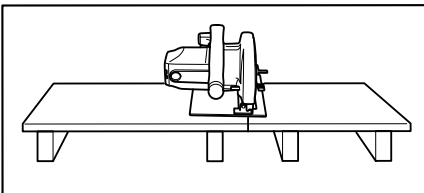

Fig. 1
8. Support Large Panels (Fig. 1 & 2). Large panels must be supported as shown in Fig. 1 to minimize the risk of blade pinching and kickback.
10. Guard Against Kickback. (Fig. 1 & 3) Kickback occurs when the saw stalls rapidly and is driven back towards the operator. Release switch immediately if blade binds or saw stalls. Keep blades sharp. Support large panels as shown in Fig. 1. Use fence or straight edge guide when ripping. Don't force tool. Stay alert-exercise control. Don't remove saw from work during a cut while the blade is moving.